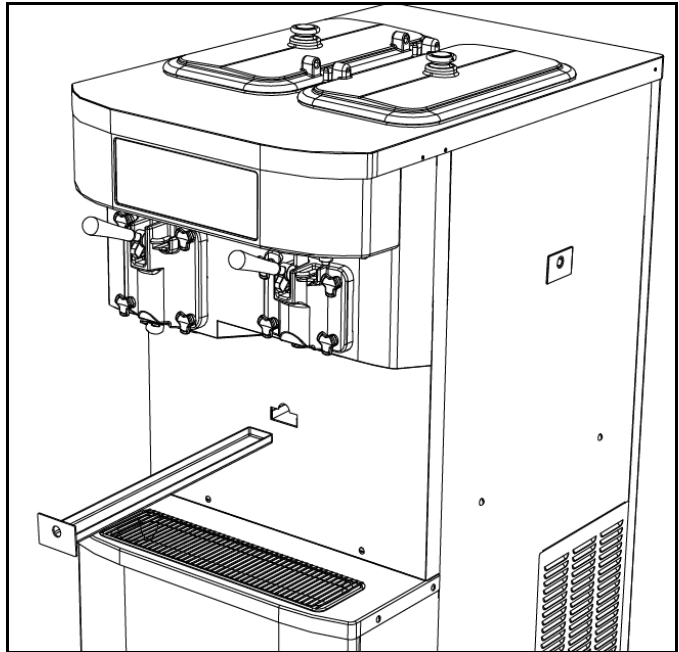

Figure 6-26
16. Slide the long drip pan into the hole in the front panel. (See Figure 6-26.)